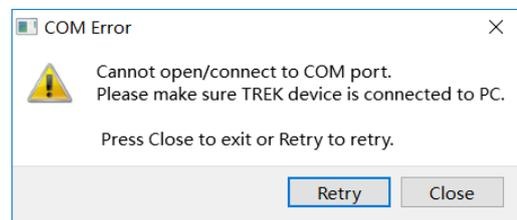

Figure 4.2.2 The host computer cannot communicate
- 4) Open the host computer software DecaRangeRTLS.exe, if it appears as shown in Figure 4.2.2, there may be the following reasons: